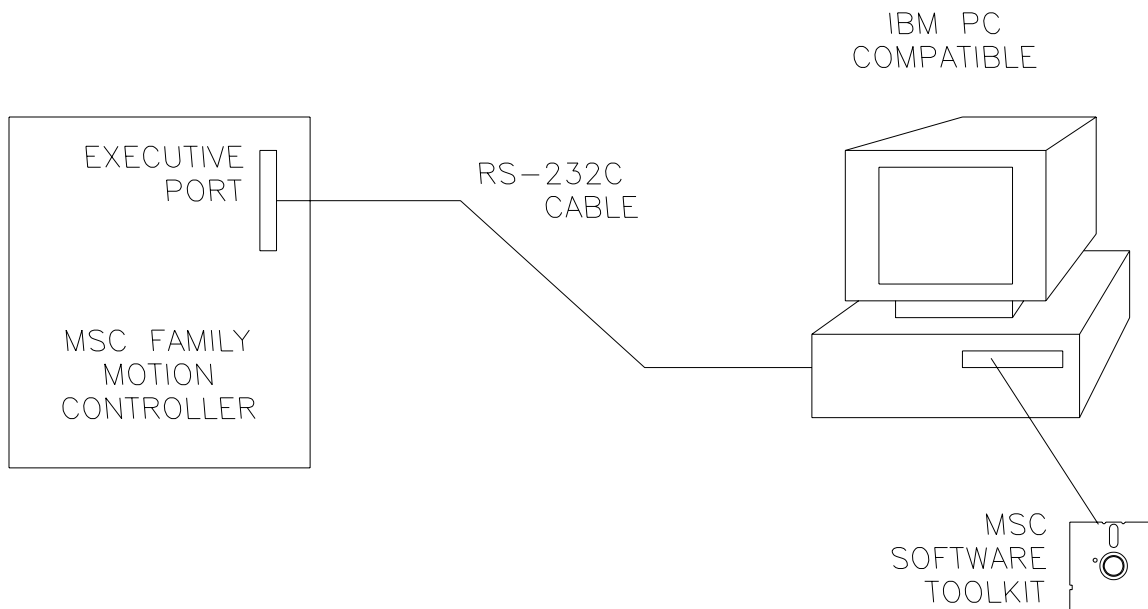

Figure 5-1 Test Set-up, Block Diagram
2. Observe that the green indicator on each of the IOE-850 Assemblies is lighted (Figure 5-1). If the LED is not lighted, replace the IOE-850 I/O Expander Assembly.
1. Connect the PC (Figure 5-1) through an RS-232C Serial Communications Cable to the communication port on the Motion Controller.